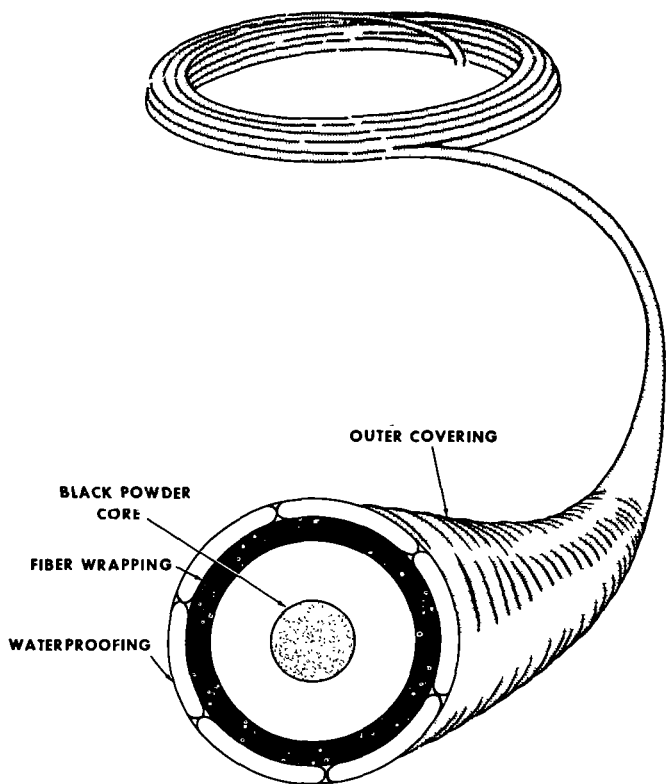

Figure 103. Blasting time fuze.
d. Time Fuze. The time fuze (fig. 103) contains black powder tightly wrapped in several layers of fabric and waterproofing materials. It may be any color with orange being the most common. It burns slowly and at a uniform rate,